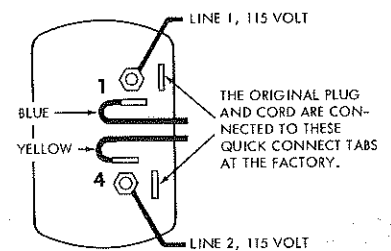

Figure 4
4. This motor is wired at the factory with a 48-inch, 3-conductor (center ground wire) cord and plug and connected for clockwise rotation (facing switch end of motor). In event the cord is removed and the motor wired for a permanent installation, connect the ungrounded supply line to terminal No. 1 (either the terminal post or quick connect tab adjacent to it). Connect the grounded supply line to terminal No. 4 (either the terminal post or quick connect tab next to it). (See figure 4.)
NOTE: To reverse direction of rotation, interchange position of the blue and yellow leads. (See figure 4.)